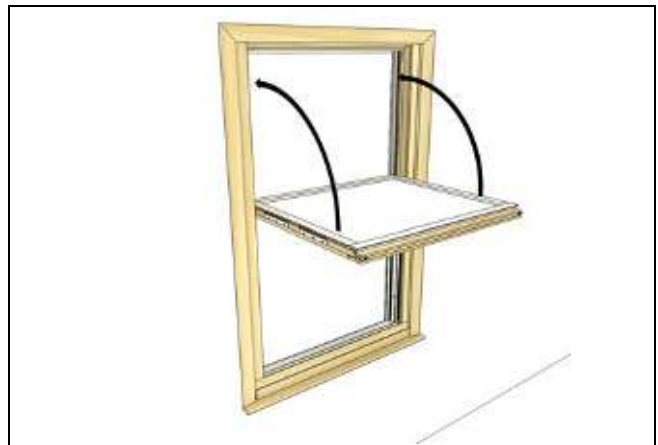

Figure 32
3. Tilt sash up, pull the tilt latches (in the top edge of sash top rail) until they retract fully on both sides, hold them and ease sash into place. See Figure 32. Check the nose of each tilt latch to ensure they are fully engaged in the sash guide track of jamb carrier assembly. Raise the top sash to the top of frame.